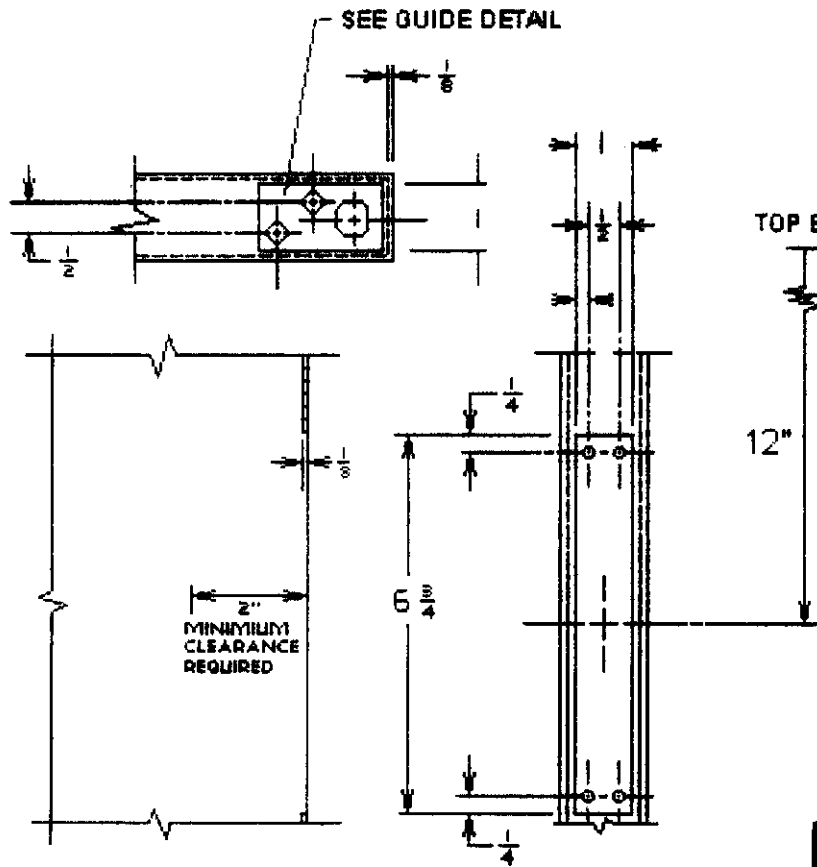

FIGURE 1
1. PREPARE INACTIVE DOOR AS SHOWN IN FIGURE 1. (TOP CORNER SHOWN)